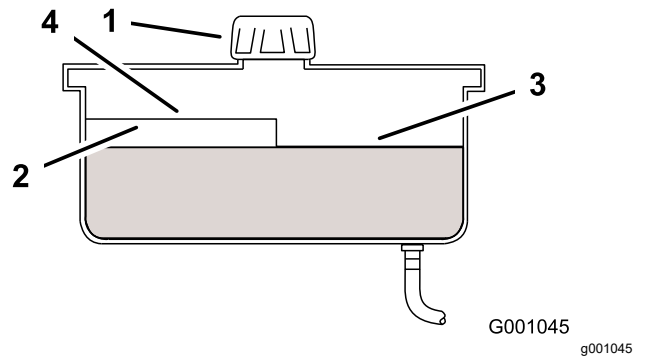

Figure 42
3. Clean the area around the cap and filler neck of the hydraulic tank (Figure 42).
4. Remove the cap from the filler neck. Look inside to check if there is fluid in the reservoir (Figure 42).
- Note:** The fluid level should be to the top of the hot level of the baffle when the fluid is warm (Figure 42).